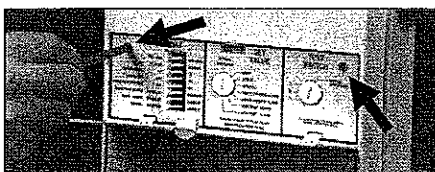
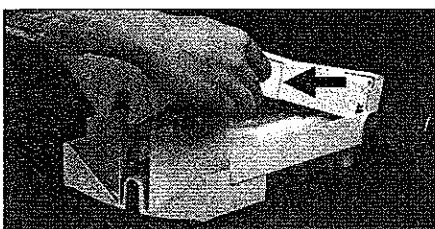

Figure 58
Figure 60
7. Remove the four (4) 6-32x3/8" Phillips pan-head screws as illustrated in Figures 58 and 59. Close the rear control panel door.
8. Pull straight up on the rear enclosure (see Figure 60) to separate it from the front of the Monitor. Arrow in Figure 60 shows how to position your fingers so that the panel insert does not fall out of the rear enclosure.
6. Place the rear enclosure onto the front enclosure, ensuring that the plastic blank insert is held into position as illustrated by the arrow in Figure 60. Install the rear enclosure by installing the four (4) 6-32x3/8" Phillips pan-head screws (see Figures 58 and 59).